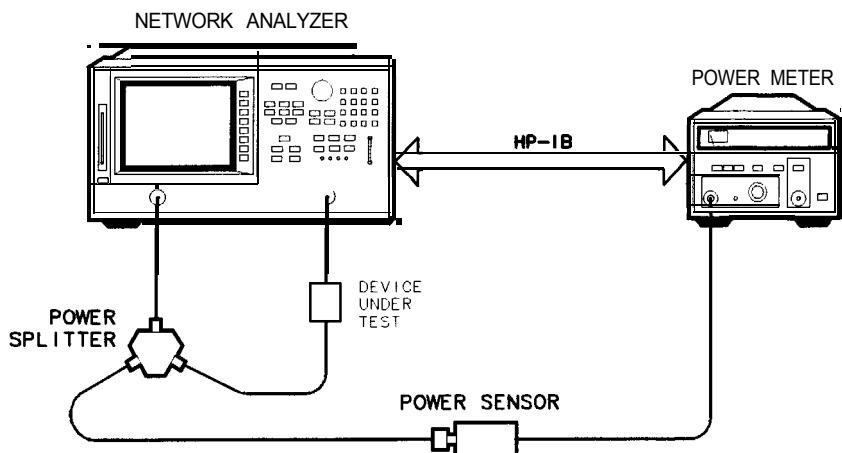

Figure 5-9. Continuous Correction Mode for Power Meter Calibration
You can set the analyzer to update the correction table at each sweep (as in a leveling application), using the continuous sample mode. When the analyzer is in this mode, it continuously checks power at every point in each sweep. You must keep the power meter connected as shown in Figure 5-9. This mode is also known as power meter leveling, and the speed is limited by the power meter.
1. Connect a power splitter or directional coupler to the port supplying RF power to your test device, as shown in Figure 5-9.